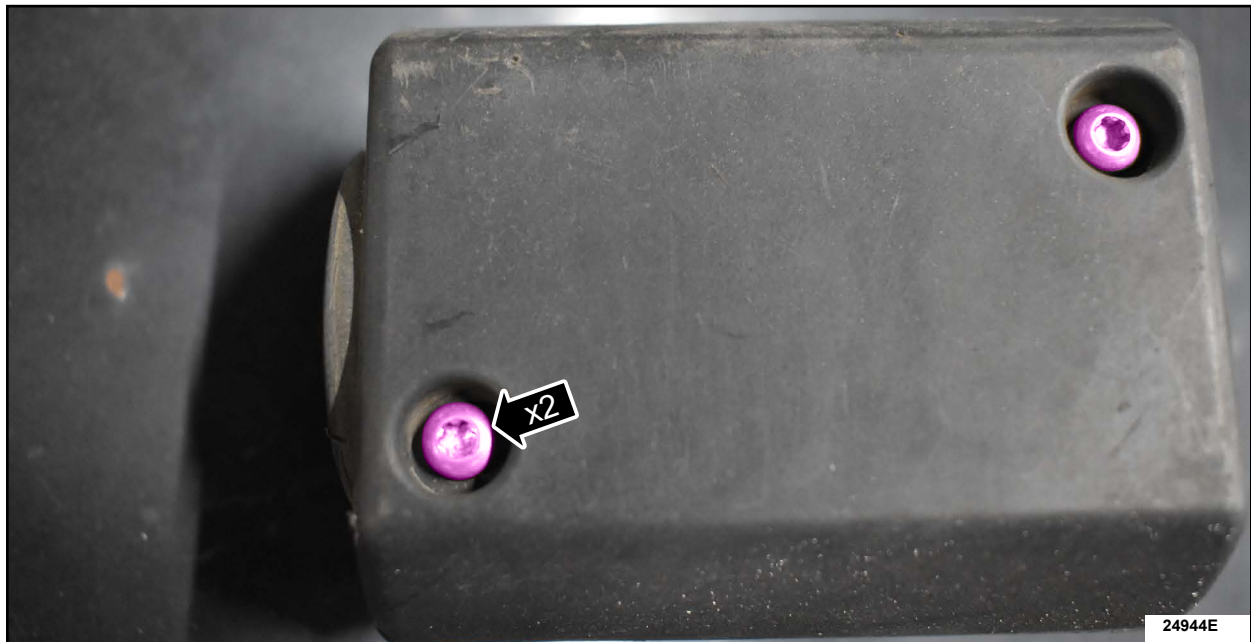

FIGURE 8
4. Remove the case screws. See Figure 8.